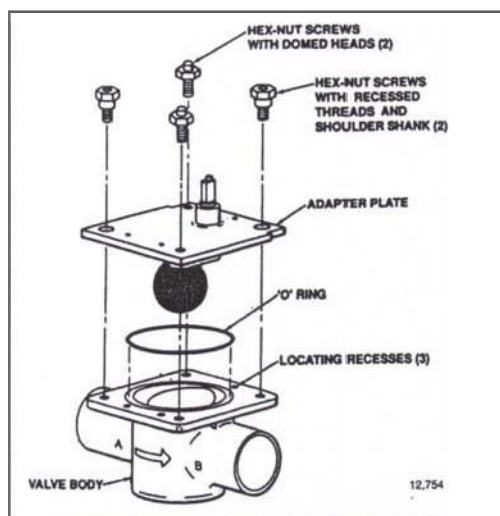

Fig. 5.
5. Use a 5/16 wrench or ratchet to remove the 4 hex-nut screws securing the adapter plate to the valve body and lift off the adapter plate using a flat screwdriver (see Fig.5).
1. Insert the O-ring on the valve body, only if you have removed it (see Fig.5).
3. Secure the metal plate to the valve body with the 4 hex-nut screws (see Fig.5). 2 of the screws have heads with recessed threads to insert screws for mounting the power head, insert them in the larger screw openings.